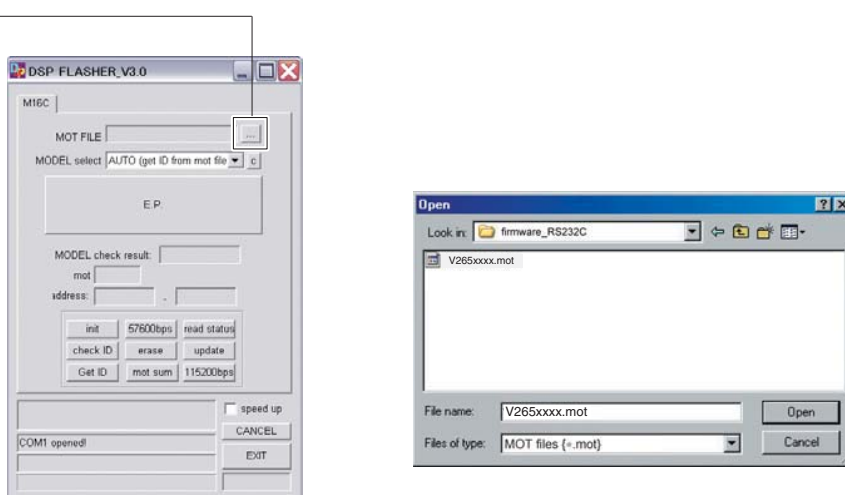

Fig. 2
The screen appears as shown below. (Fig. 2)
2. Click [...] and select the firmware name. (Fig. 2)